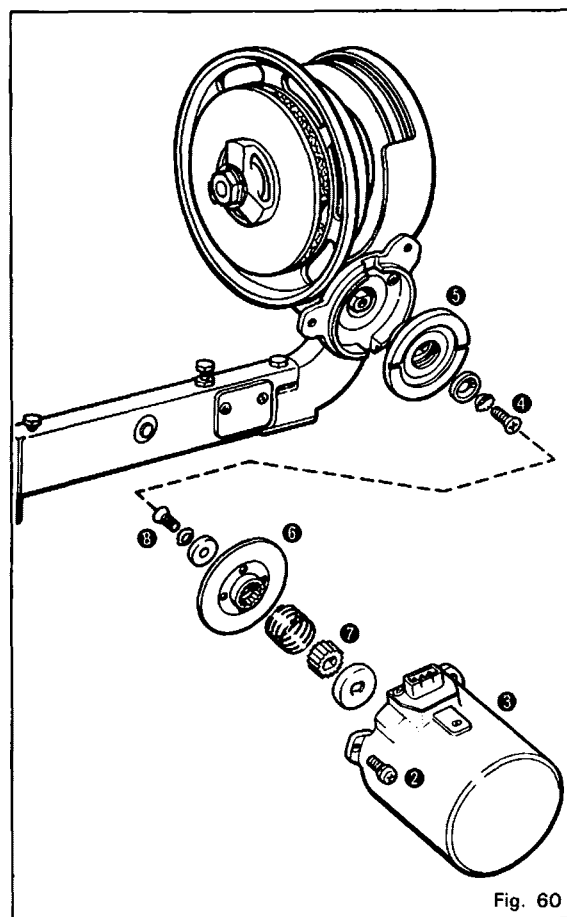

Fig. 60
- b. Loosen screw ❷ and remove slow speed motor ❸.
c. Loosen flat head screw ❹ and replace clutch plate ❺.
d. In this case, replace friction disc ❻ and selation ❼, as well, by loosening screw ❸. (Fig. 60)
h. Insert the spline shaft, and tighten washer ⓑ with screw ❸.
i. Install motor ❸ with screws ❷.
j. Insert auxiliary motor cord plug ❶ into the plug socket. (Fig. 60)